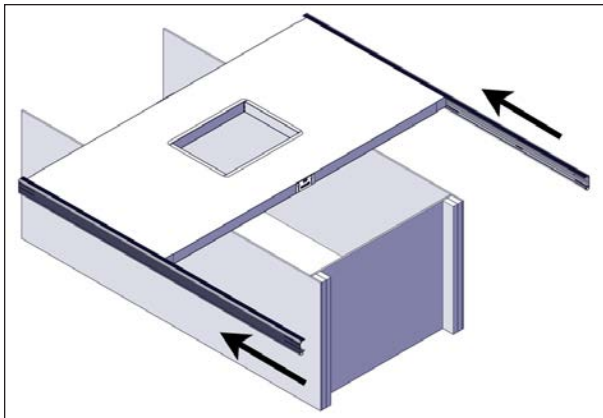
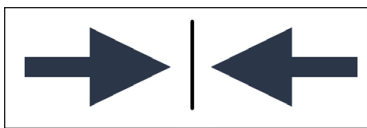

FIGURE 38: LONG C-CHANNEL INSTALLATION
FIGURE 39: CENTER LABEL
3. Install 2 long C-channels 94 9/16" (240 cm) on the panel so that the middle of the C-channel, premarked with a center label (Figure 39), is aligned with the edge of the panel, see Figure 38.